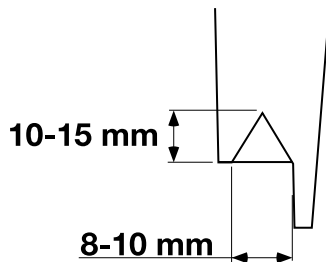

Fig 56.
- d Fit the pre-cut nozzle. ⇒ Fig 56. \(□ B-55\).